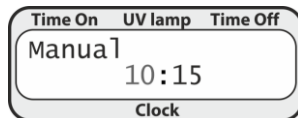
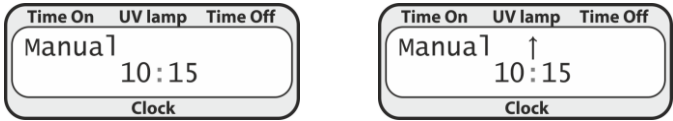

Figure 9. Manual mode setup
Figure 12. UVR-Mi in Manual mode.
6.6. **Manual mode (figure 9, figure 12).** Select the mode (see 6.3). Optionally, setup the current time. Press ►/■ to apply the changes.
6.6.1. In the Manual mode, recirculator is controlled by pressing the ►/■ key, see fig. 12.